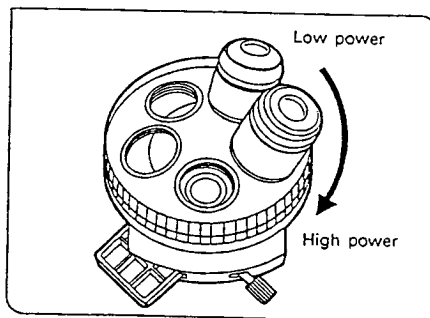

Fig. 14
(Fig. 14)
- Mount the objectives on the revolving nosepiece in such a manner that the magnification increases from low to higher powers in a clockwise direction. (Fig. 14)